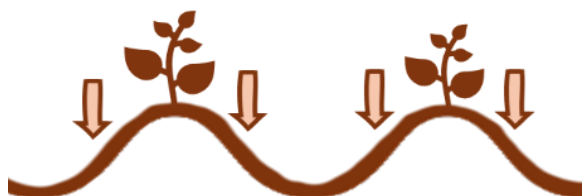

Figure 4. Sampling directions for ridged crops e.g. potatoes⁹.
- For ridged crops (e.g. potatoes), collect 4 cores across 2 ridge shoulders (Figure 4) at a time.